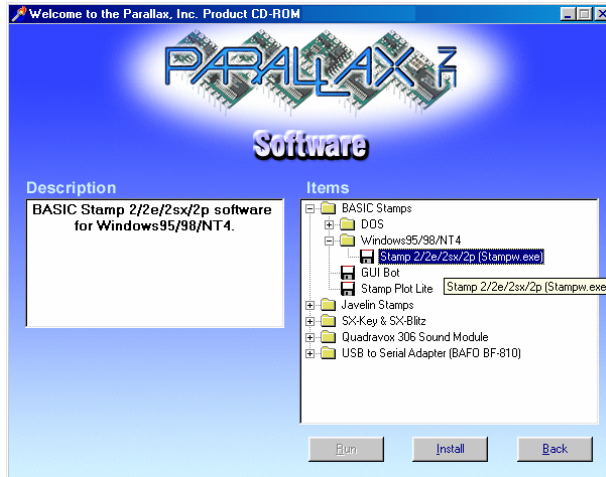

Figure 1-15
- √ Click the + next to the BASIC Stamps folder shown in Figure 1-15.